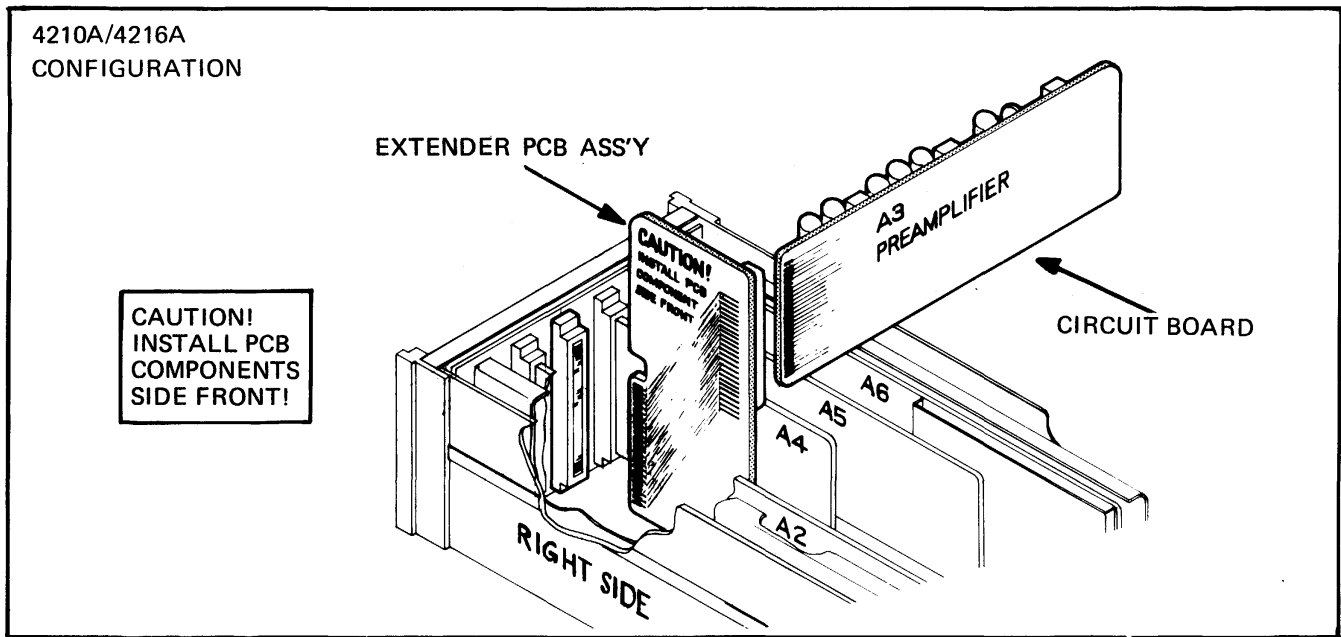

Figure 6-2. EXTENDER PCB ASSEMBLY INSTALLED IN 4210A/4216A INSTRUMENT
6-5. To install a printed circuit board on the extender as shown in Figure 6-2, proceed as follows:
- c. Install the extender into the mother board connector as shown in Figure 6-2.
- d. Support the extender and install the printed circuit board into the extender connector as shown in Figure 6-2.